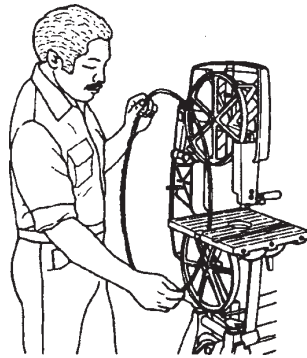

Fig. B-25
7. Slide the slack blade off the wheels and out through the slot in the table, as shown in Fig. B-25. You'll have to flex the blade slightly to get it around the blade guard.